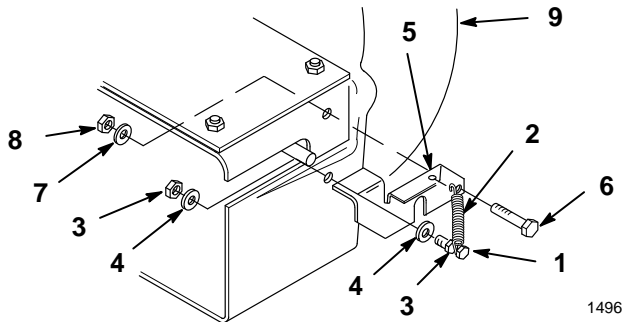

Figure 10
4. Install the long hook end of tension spring and #10 nut onto a #10 x 3/4" screw. Thread the nut on within 1/8" from the head end of screw so that the spring has space to rotate freely (Fig. 10).
5. Slide a #10 washer onto the screw and insert through the blower housing. Install a second #10 washer and #10 nut (Fig. 10). While holding the first nut, tighten the second so that the assembly is tight against the plastic housing.
6. Select the appropriate latch (42" deck–short, 48" deck–long) Hook the spring into the hole in the latch and mount the latch to the blower housing with a 1/4 x 3/4" (19 mm) bolt, 1/4" washer and 1/4" lock nut (Fig. 10). Leave the nut loose enough so that the latch pivots freely.